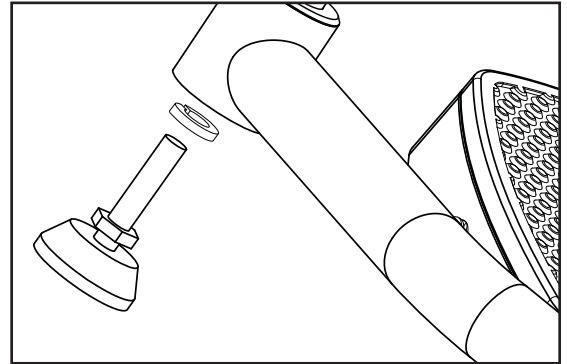

Figure 19
**10-1** Replace the 2 leg levelers previously removed in Step 9 and 2 lock washers (see Figure 19).